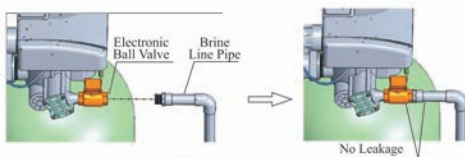

Figure 1-5
a. As Figure1-5 shows, use UPVC (DN20) to connect brine valve with brine line connector